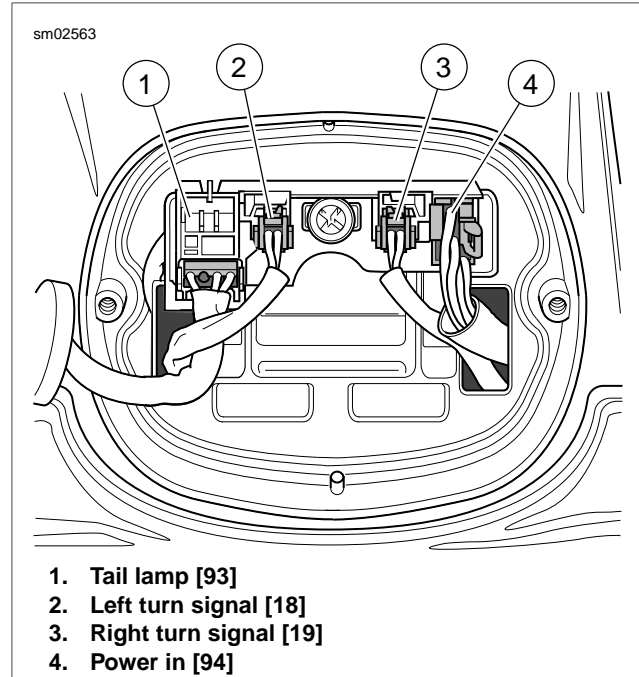

Figure 8-26. Wire Location at Connectors
8. See Figure 8-26. Install connectors to pin housing.